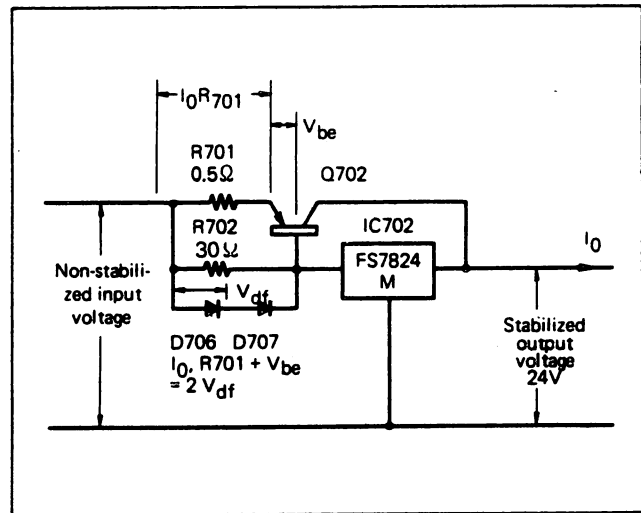

Figure 4-10 Voltage Regulator P24
b. Voltage regulator P24 (Figure 4-10)